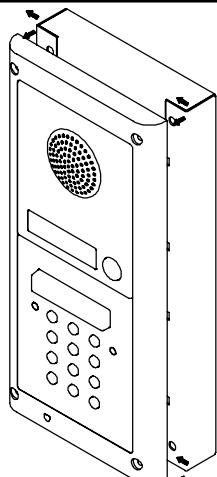

Fig.6
- As shown on figure 6, pull back the module support frame **H** while moving it slightly to the left as suggested by the pointers;